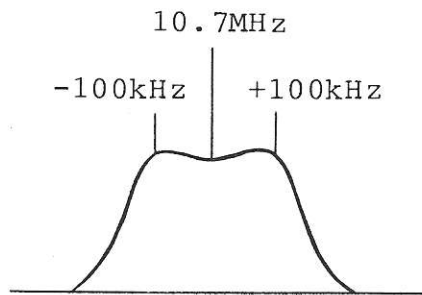

Fig. 4-7 Limiter response at double-tuned condition
When the limiters are properly aligned, the typical response at the pickup point (A) is shown in Fig. 4-7.